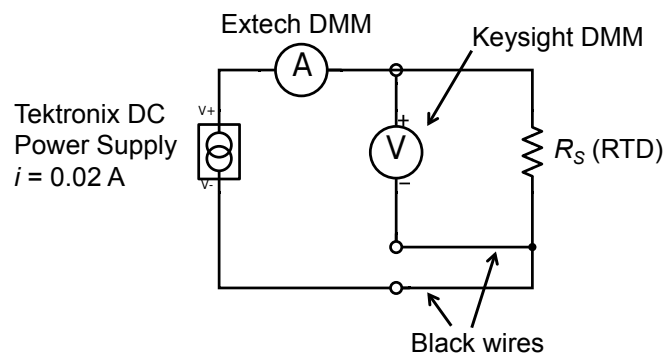

Figure 1 – A schematic of the RTD circuit.
3. Construct the circuit shown in Fig. 1.
4. Compare the circuit you constructed to Figure 1 to make sure it is correct. Ask the instructor to check if you are unsure.